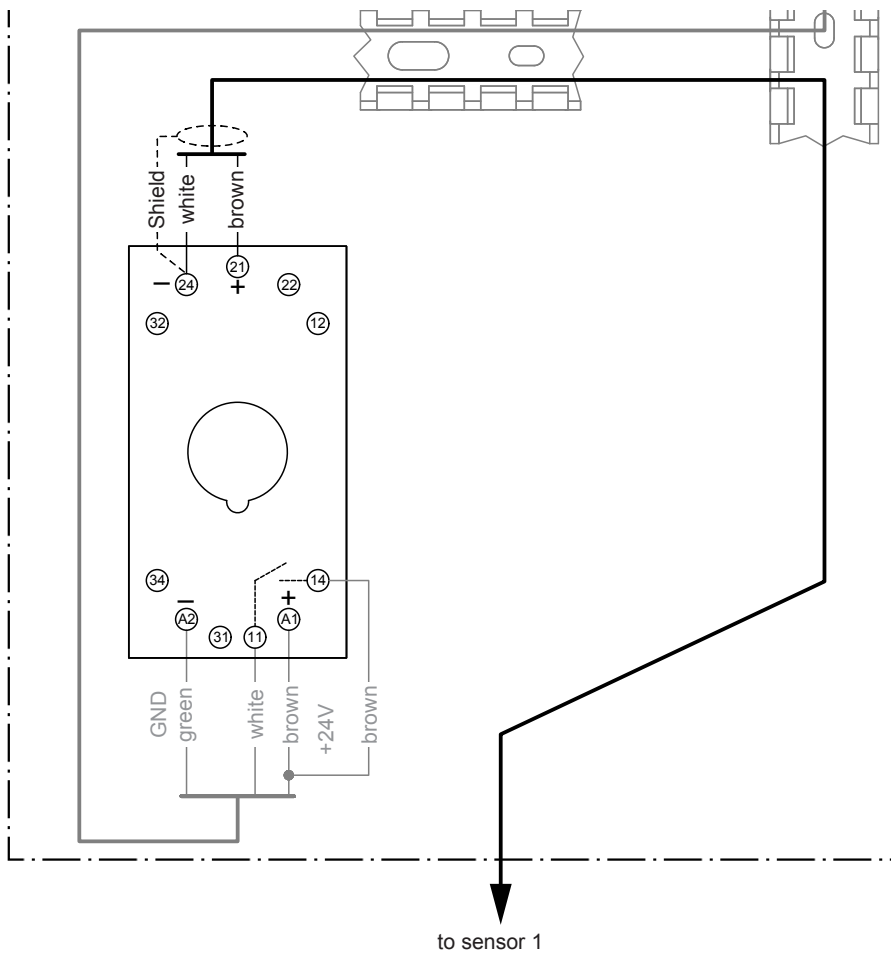

Fig. 9: Connecting the sensor cable to the leak detector
12. Connect the sensor cable to the corresponding terminals on the leak detector base as shown in Fig. 9.